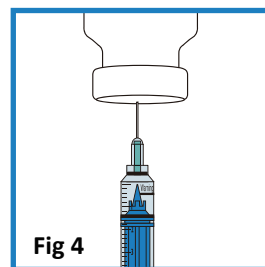

Fig 4
2. Insert the needle into the medicine vial to draw medication into the barrel (Fig 4).